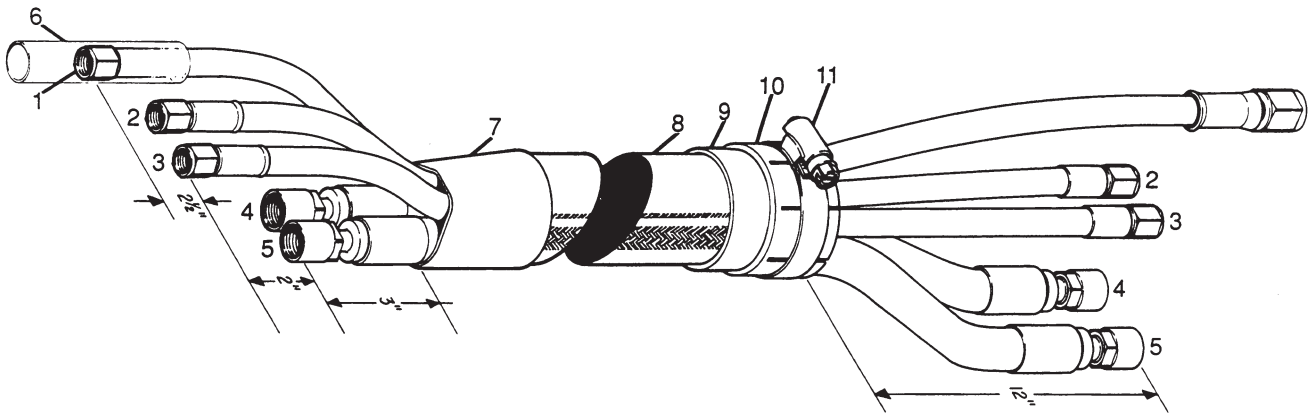

Figure 5-2 Machine Torch Lead Assembly
To remove and replace individual torch leads, perform the following procedure and see Figure 5-2. Refer to the *Machine Torch Lead Assembly Parts* list.
2. Ensure the lead lengths (1-5) at both ends are in accordance with those called out in Figure 5-2.
4. Slide the shield braid (8) over the torch lead ends and pull the sheath until it approximates the length requirements called out in Figure 5-2.
6. Slide the shrink tubing (7) over the torch end of the shield braid. Heat the shrink tubing until it tightly bonds around the shield braid and torch lead.
7. Replace the compression ring (9), shield collar (10), and hose clamp (11) over the power supply end of the shield braid. Tighten the hose clamp.